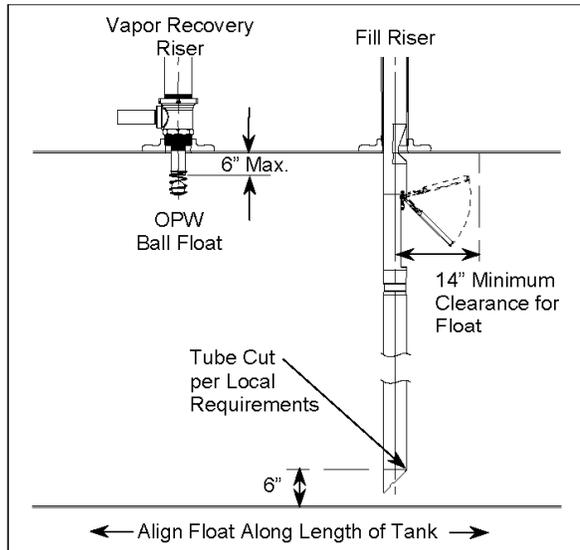

Figure 24
Measuring from the underside of the inlet tube flange, mark the overall length of the drop tube a distance of (B) minus 6". Determine dimension (B) from the measurements taken in Step 1, Figure 1 (Top of the Face Seal Adapter below the drain valve outlet in the spill container to the bottom of the tank). Saw off the excess tube at a 45-degree angle or per local codes or requirements and file off any sharp burrs (Refer to Figure 24). Optional: Install the OPW Tank Bottom Protector on the lower tube (Refer to Installation instructions supplied with the Tank Bottom Protector).
**CAUTION:** No obstruction in the tank can be within 14" from the center of the riser pipe or the valve may not operate properly (See Figure 24).